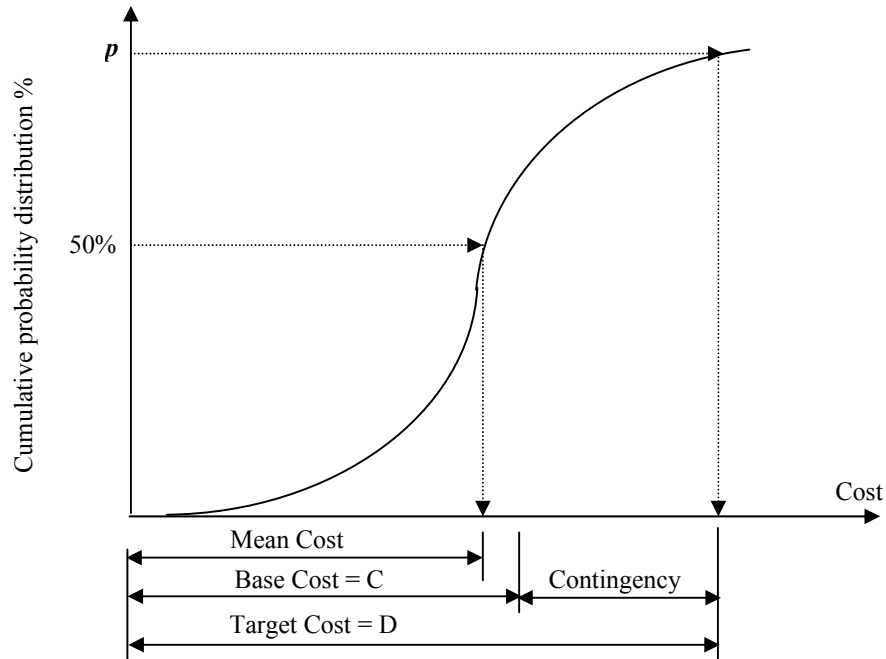

Figure 9.18: Cost contingency
- Cost contingency can be simply calculated after specifying the probability distribution of the performance criteria (Cumulative Probability Distribution as shown in Figure 9.18) as follows: